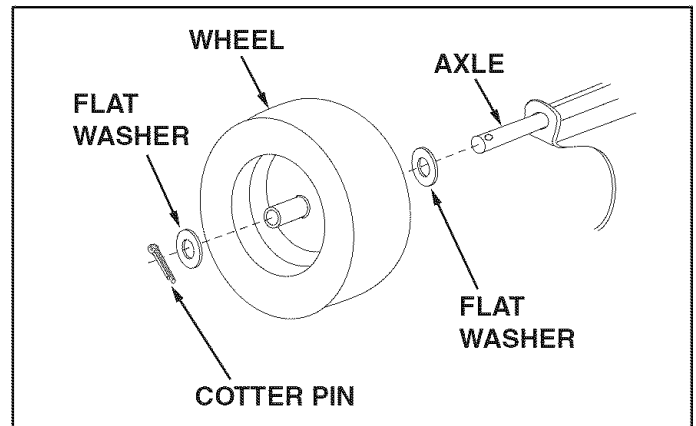

FIGURE 3
4. Assemble a washer, wheel (valve stem facing out) and another washer onto the axle as shown in figure 3. Secure the wheel in place using a cotter pin. Repeat for other wheel.